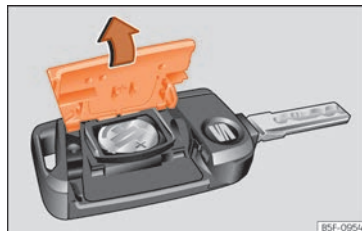

Fig. 141 Vehicle key: opening the battery compartment.
- Remove the cover from the back of the vehicle key »» Fig. 141 in the direction of the arrow »» ❶.
- Fit the cover as shown »» Fig. 141, pressing it onto the vehicle key casing in the opposite direction to that shown by the arrow until it clicks into place.